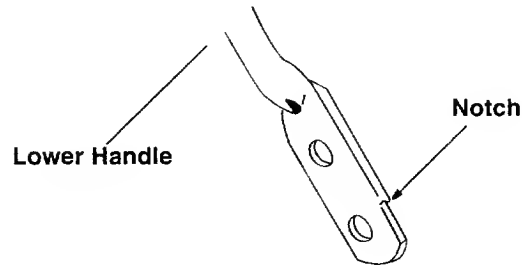

Figure 9
- Turn the lower handle around so the notch on the bottom of the lower handle is facing forward as shown in Figure 9. Reassemble, placing the bottom holes in the handle over the weld pins in the handle mounting bracket.